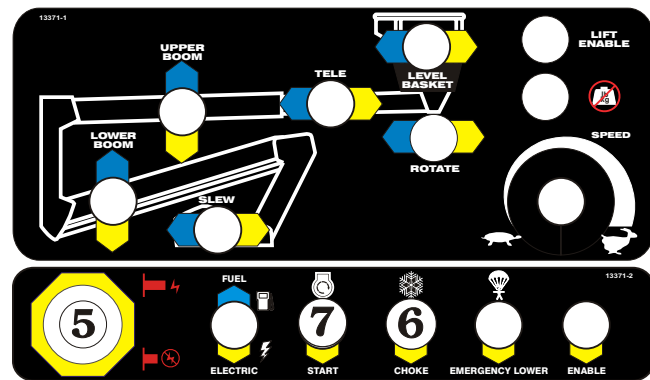

Figure 8.10
- Set the **Emergency Stop** switch ⑤ to (ON) (see Figure 8.10).
- If the engine is at ambient temperature (cold), hold the **Choke Switch** ⑥ (see Figure 8.10) down throughout the next step.